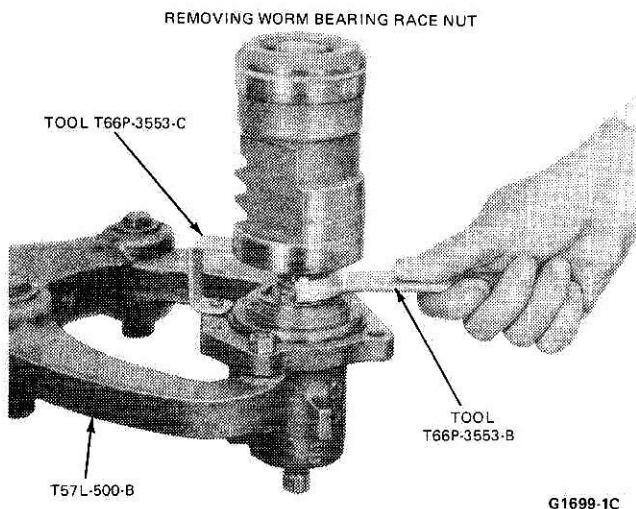

FIG. 3 Removing Worm Bearing Race Nut
12. Install the valve body assembly in the bench mounted holding fixture Tool T57L-500-A, and loosen the Allen head face nut screw in the valve housing. Remove the worm bearing race nut (Fig. 3).